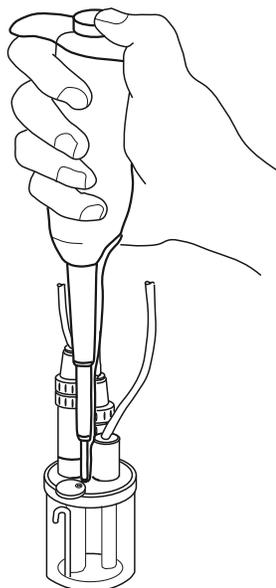

Figure 20: Pipet Dispensing
- Be sure to hold the pipet completely vertical while dispensing. Do not inject the standard on the side of the flow cell, as a film may be retained on the inside of the wall, resulting in errors in precision of calibration. Refer to Figure 20.